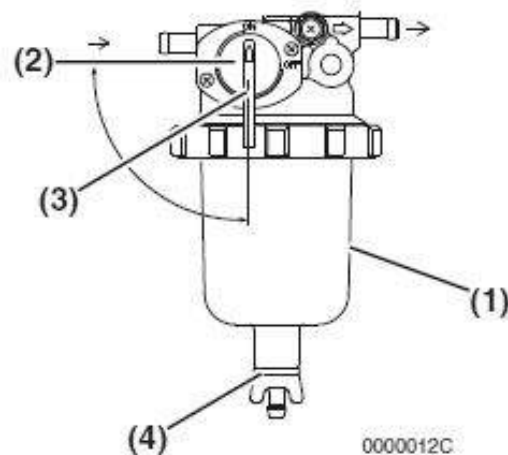

Fig.9-9
1. Position an approved container under the fuel filter / water separator (**Fig.9-9, (1)**) to collect the contaminants.
2. Close (**Fig.9-9, (2)**) the fuel cock (**Fig.9-9, (3)**).
3. Loosen the drain cock (**Fig.9-9, (4)**) at the bottom of the fuel filter / water separator. Drain any water collected inside.
5. Open the fuel cock (**Fig.9-9, (3)**).